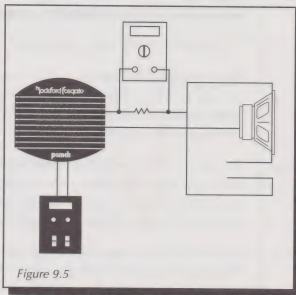

Figure 9.5
- STEP 1** Wire test gear to enclosure. The resistor should be a 20 Ω , 10 Watt resistor or other close value. Refer to Figure 9.5 for wiring instructions. **Note: Make sure all passive components except the test resistor are removed from the circuit.**